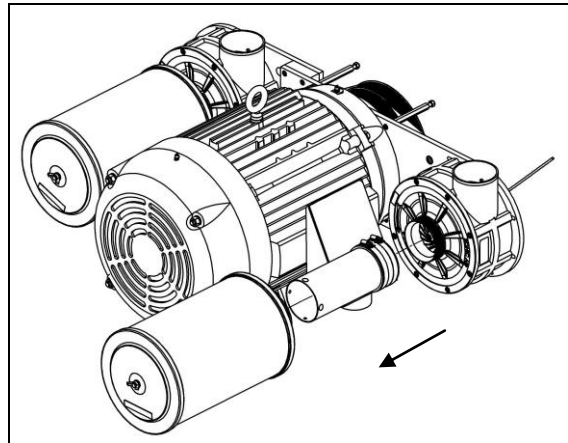

Figure 32 – Remove Filter or Inlet Screen
4. Remove the filter or inlet screen using a flat head screwdriver or a 5/16 inch nut driver. (See Figure 32)